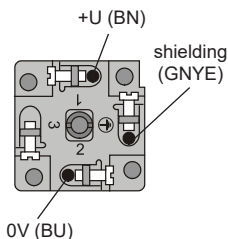
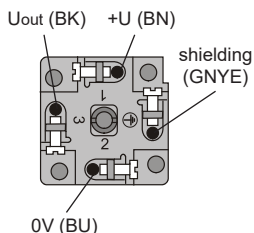

Fig. 7: Internal view of the connector with current output
Fig. 9: Internal view of the connector with voltage output
4. Connect the cable cores to the screw terminals according to Fig. 7 (current output 4-20 mA) or according to Fig. 9 (voltage output 0-10 V). Tighten the clamps firmly.